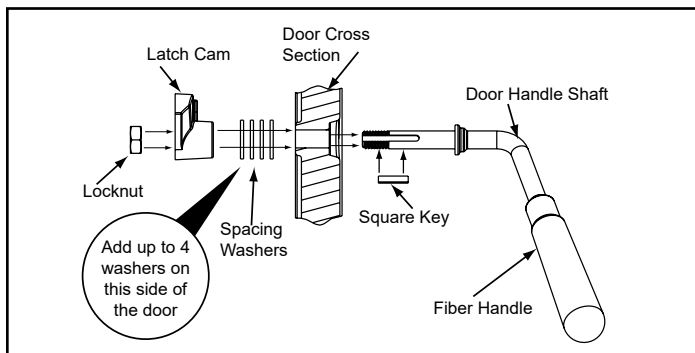

Figure 20.1
3. Install second washer(s) as shown in **Figure 20.1**.
7. Install spring handle turning in a counter-clockwise motion to required 2 inch (51mm) clearance location on door handle rod (**Figure 20.1**).